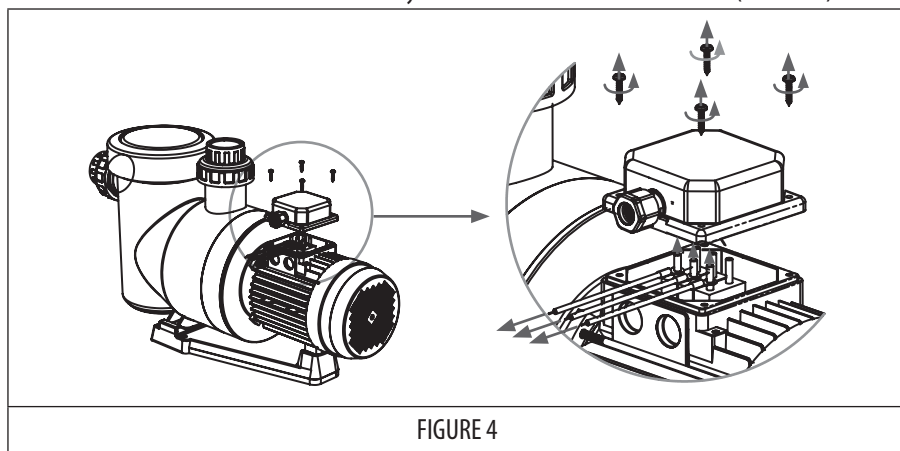

FIGURE 4
1. Unscrew the screws to open the connection box. (FIGURE 4)
2. Disconnect and remove the factory test wires from the terminal block. (FIGURE 4)